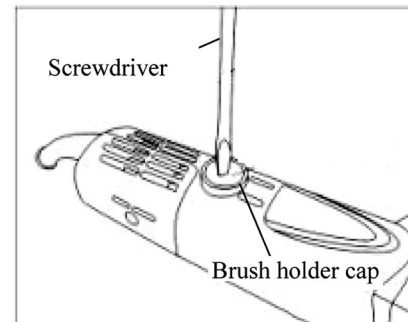

Fig3
3. Use a screwdriver to remove the brush holder caps. Take out the worn carbon brushes, insert the new ones and secure the brush holder caps (Fig3)